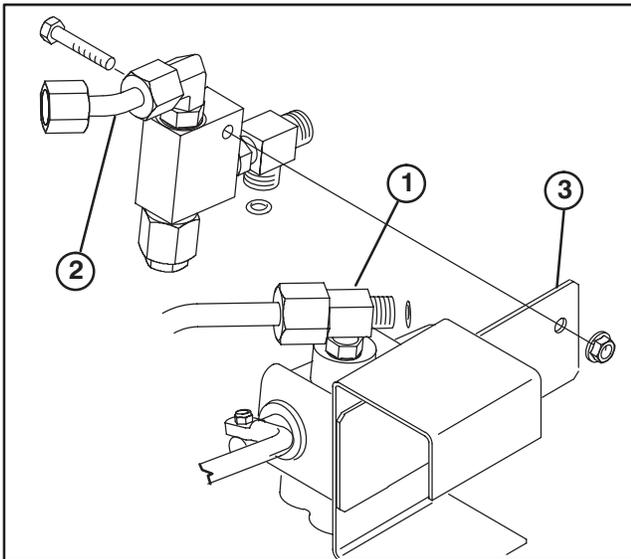

Figure 15
27. Loosely mount other end of hydraulic tube to tee fitting in top port of auxiliary valve (Fig. 15).
28. Mount auxiliary relief valve to valve mount plate with a 1/4–20 x 1–1/2” lg. capscrew and flange locknut (Fig. 15).